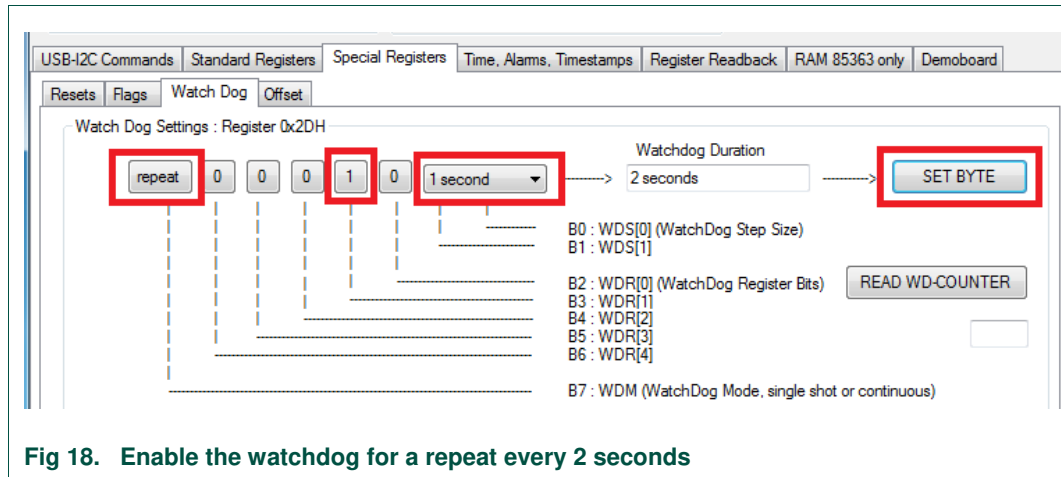

Fig 18. Enable the watchdog for a repeat every 2 seconds
4. Enable the watchdog for a repeat every 2 seconds for example (see Fig 18).